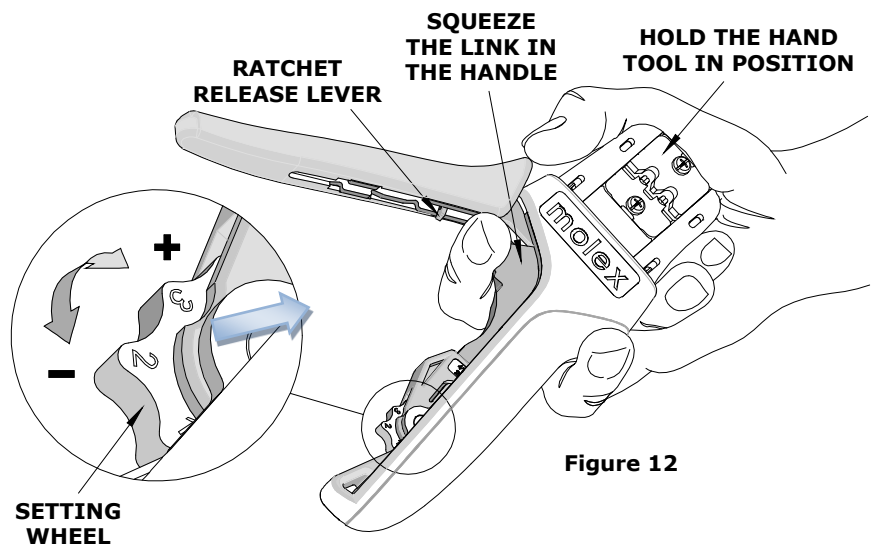

Figure 12
### How to Adjust Tool Preload (See Figure 12)
1. Hold the hand tool in the palm of your hand as shown in Figure 12. Using your index finger, squeeze the link toward the top of the hand tool frame. This will release the preload adjustment wheel.
2. Rotate the setting wheel counterclockwise (CCW) to increase handle force. The numbers will display higher. To decrease handle force, rotate the setting wheel clockwise (CW).